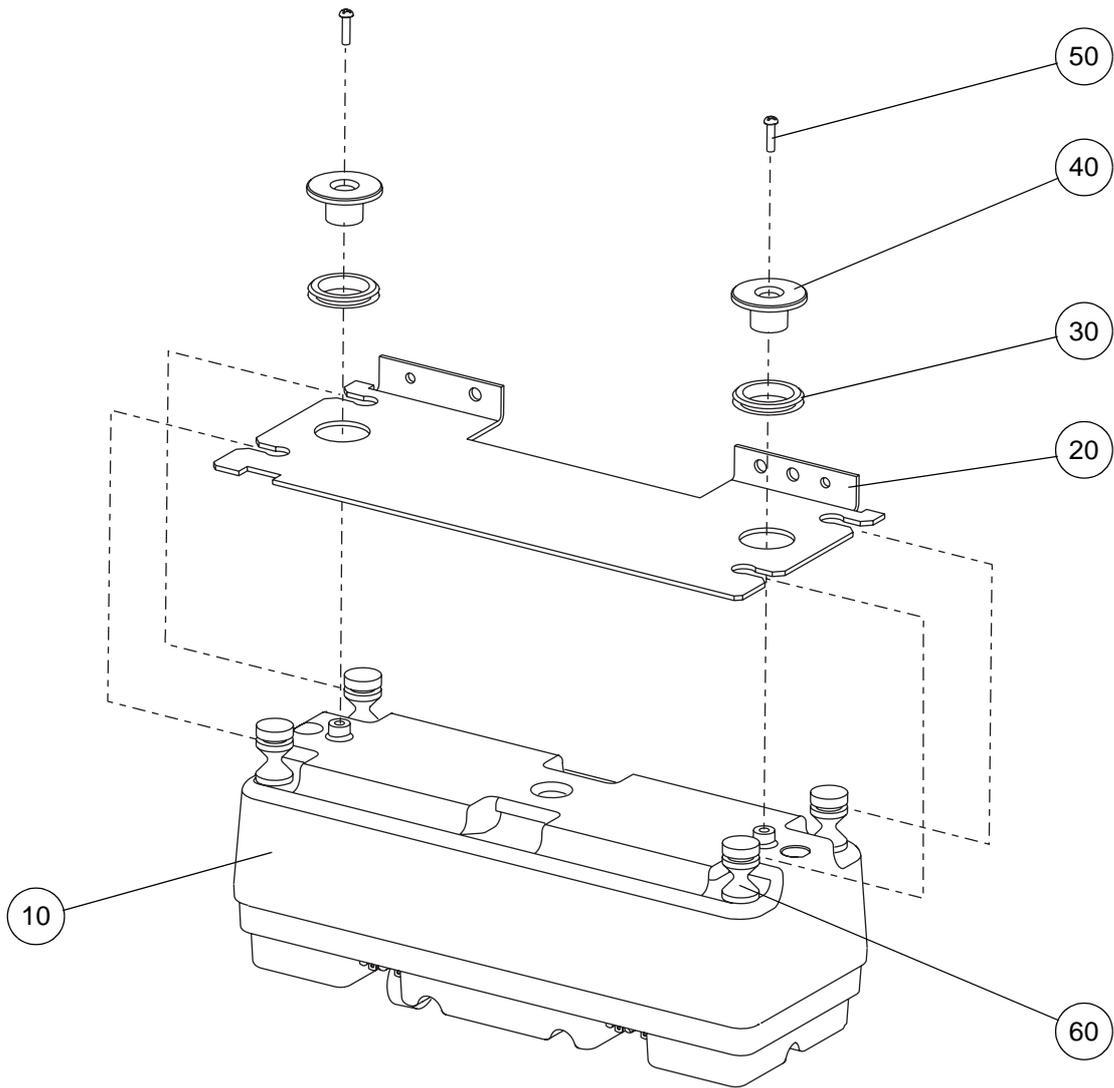

Figure 59 - Removing the Compressor Assembly from the Mounting Bracket
- 38.2 Lay the compressor assembly (Fig 59, Item 10) and mounting bracket (Fig 59, Item 20) down with the mounting bracket on top (Refer to Figure 60).
- 38.3 Remove the two screws (Fig 59, Item 50) and compressor bump stops (Fig 59, Item 40) from the compressor assembly (Fig 59, Item 10) and mounting bracket (Fig 59, Item 20).
- 38.4 The compressor assembly is still attached to the mounting bracket via the four anti-vibration (AV) mounts (Fig 59, Item 60). Separate the compressor assembly from the mounting bracket, as follows (Refer to Figure 60):
- 39.1 Lay the compressor assembly (Fig 59, Item 10) down with the AV mounts (Fig 59, Item 60) on top, and the two cables to the power supply PCB assembly at the front (Refer to Figure 60).
- 39.2 Lay the mounting bracket (Fig 59, Item 20) on top of the compressor assembly, with the angled part of the mounting bracket on top and at the back of the compressor assembly (Refer to Figure 60).
- 39.5 Install the two compressor bump stops (Fig 59, Item 40) through the compressor bracket grommets (Fig 59, Item 30), and over the spigots in the compressor assembly.
- 39.6 Install the two screws (Fig 59, Item 50) to secure the compressor bump stops.